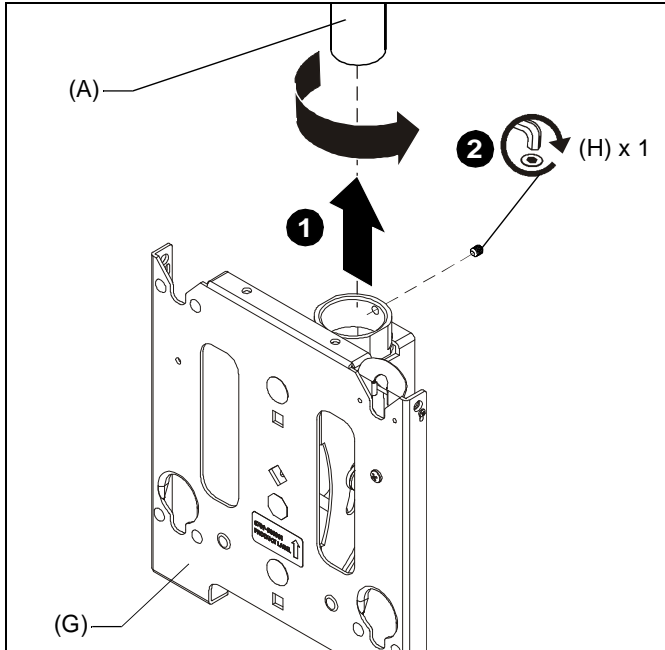

Figure 7
1. Thread the faceplate (G) onto pipe (A) until tight. (See Figure 7)
2. Install and tighten the 5/16-18 x 1/4" set screw (H) using the 5/32" hex key (E). (See Figure 7)